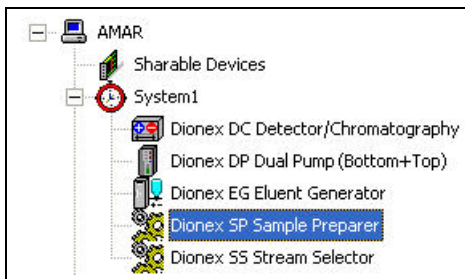

Figure C-16. Chromeleon Server Configuration
2. Double-click the SP icon under the system (timebase) name (see Figure C-16).
5. Select the **Mode** (see Figure C-16) and click **OK**.